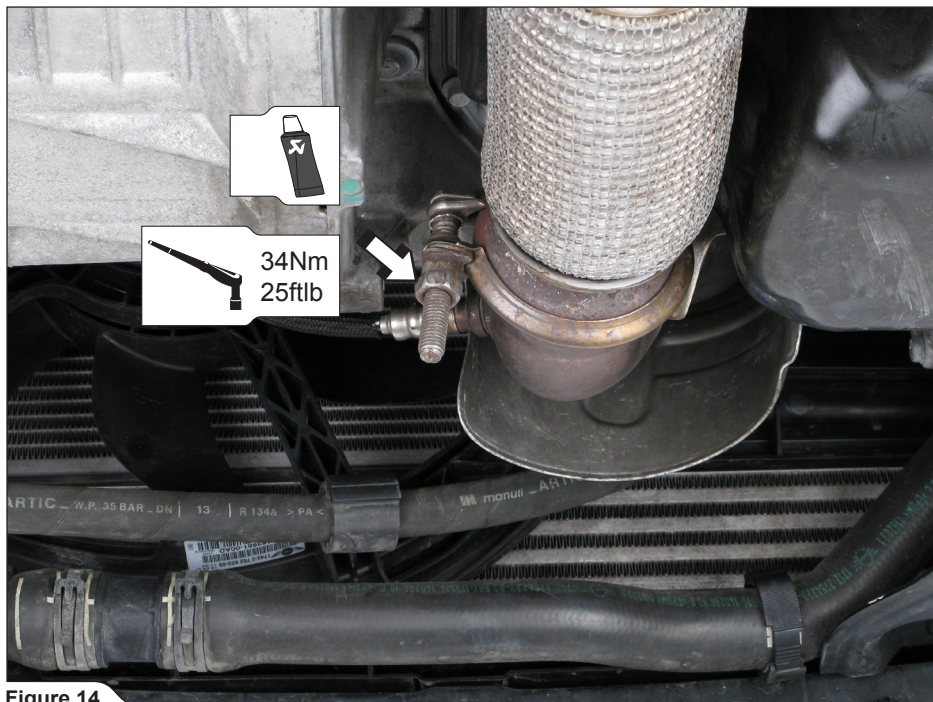
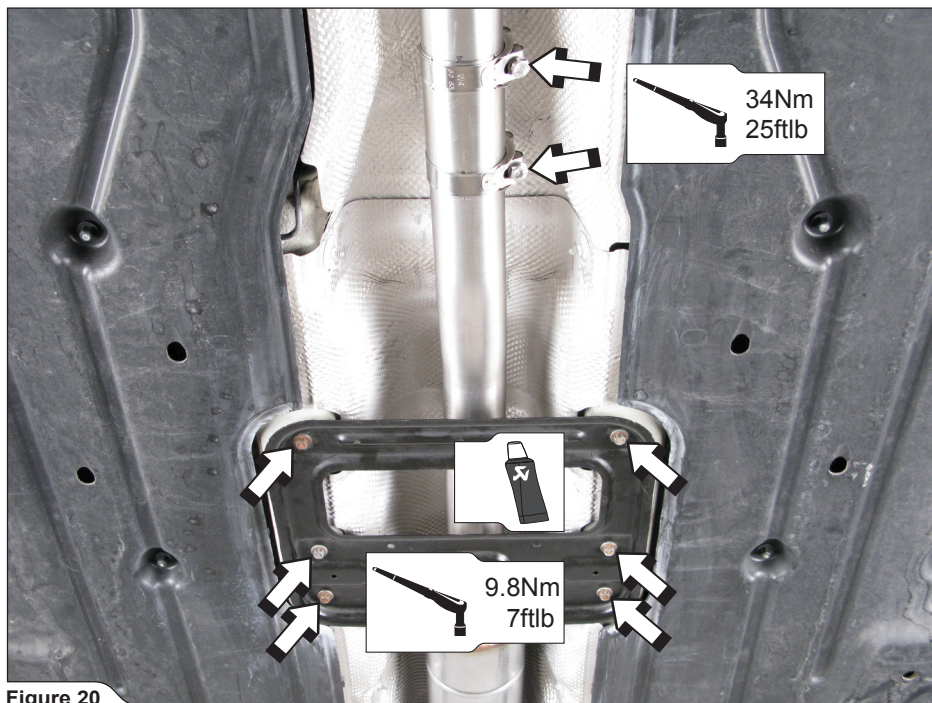

Figure 14
Figure 20
3. **For Evolution:** attach the Akrapovič link pipe on the down pipe, using original clamp and original rubber brackets (**Figure 14**).
9. **For Evolution:** adjust the link pipe, resonator and muffler so, that the pipes, resonator or muffler don't touch any part of the vehicle (**there should be at least 10mm gap at any point**) and tighten to specified torques all clamps (**Figure 14, 17, 20**). Reattach the reinforcement plate (**Figure 20**).